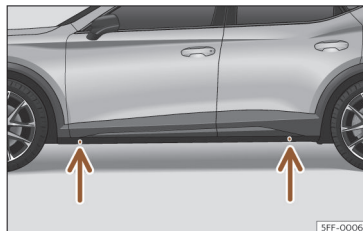

Fig. 227 Jack position points.
- Look on the strut for the mark of the jack support point (sunken area) closest to the wheel to be changed >>> **Fig. 227**.